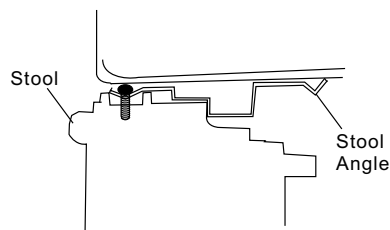

Fig.12
2. Place cabinet in window with bottom stool angle firmly seated over window stool as shown. Bring window down temporarily behind top angle to hold cabinet in place (Fig.12).
Step 2. Remark a line on the R1 insulation panel according to a length 1/8" (3mm) less than the measured width in step 1, then cut the R1 insulation panel along the line (Fig.12).